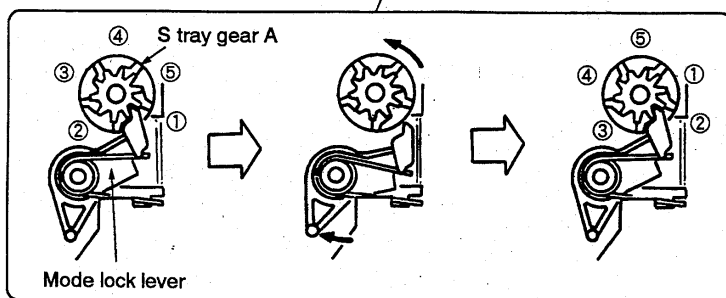

Figure 2
2. Engage the claw of mode lock lever with the tooth of S tray gear A. (Refer to figure 2.)
4. If the play is more than 1mm, unlock the draw lever. Then, rotate the S tray gear A in the direction of arrow and engage the mode lock lever with the block. (Refer to figure 2.)